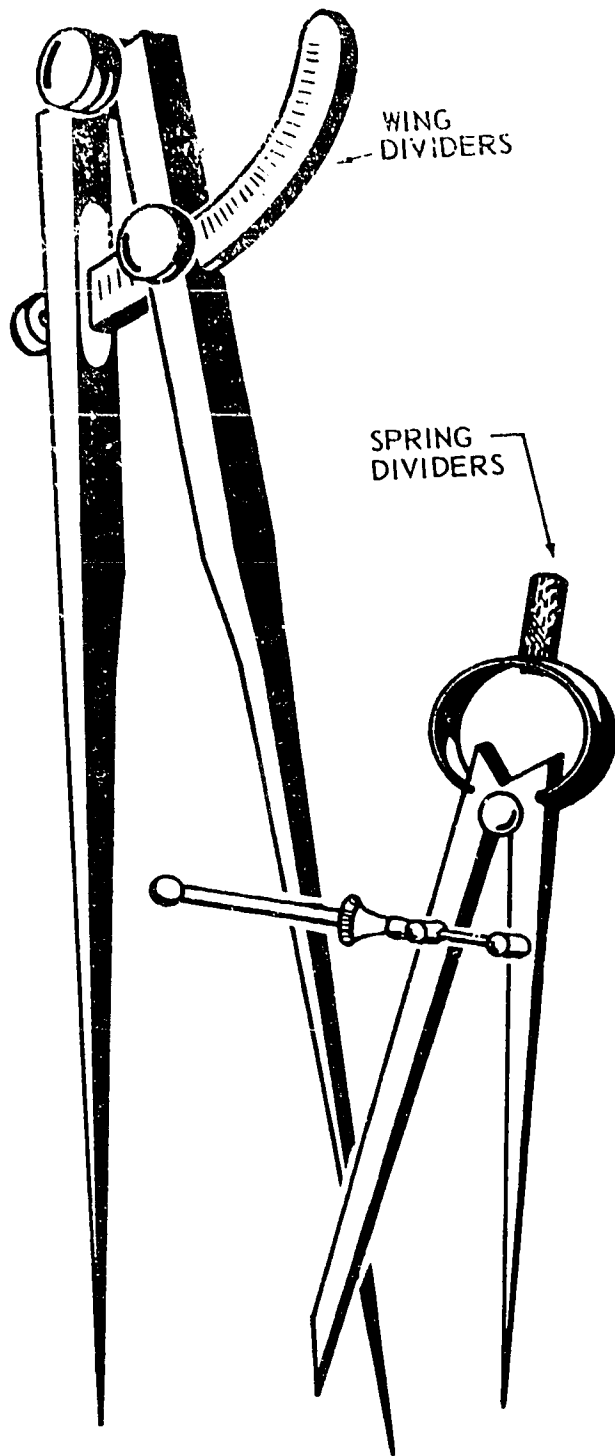

Figure 1-42. Dividers.
**Pencil compass and dividers.** The two dividers shown in figure 1-42 are the wing type and the spring type. Each consists of two pointed branches or legs, joined at the top by a pivot. The two straight legs are tapered to a needle point. Dividers are used to transfer dimensions from working drawings to metal surfaces, to scribe circles and arcs, to perform graphic solutions to problems, and to transfer measurements from the steel rule to the job. However, more accuracy is obtained in transfers of measurements with dividers than with a compass.